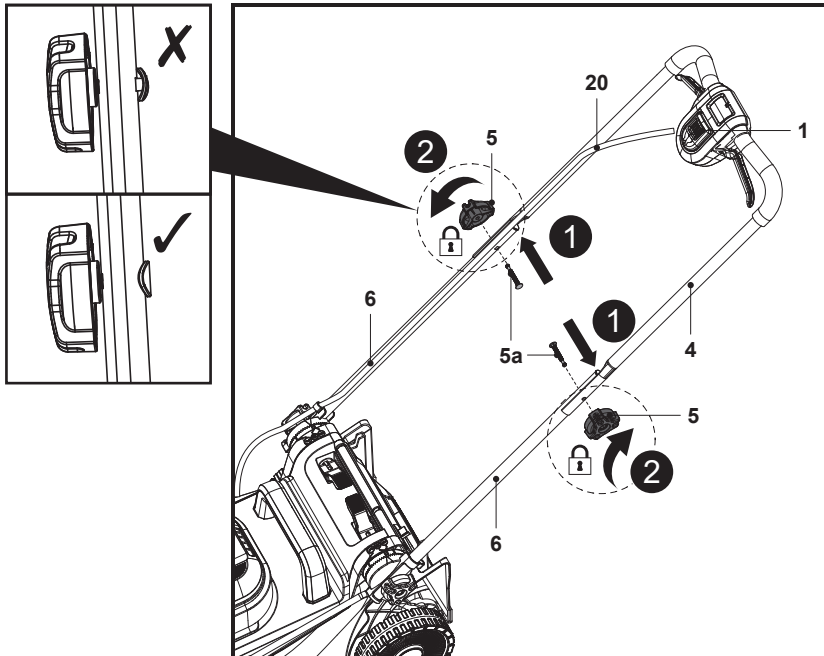

Fig. 3
1. Hold the upper handle bar (4) with the safety switch button (1) facing upwards.
2. Align the mounting holes of the upper handle bar (4) and the lower handle bars (6).
3. Pass the mounting bolt (5a) through the mounting holes to the end (Fig. 3, step 1).
4. Secure the upper handle bar (4) with the lower handle bar (6) by turning the locking knob (5) clockwise on the thread of the mounting bolt (5a) for tightening (Fig. 3, step 2).
5. Make sure that the control cord (20) runs on the upper side of the upper handle bar (4) and the lower handle bar (6).